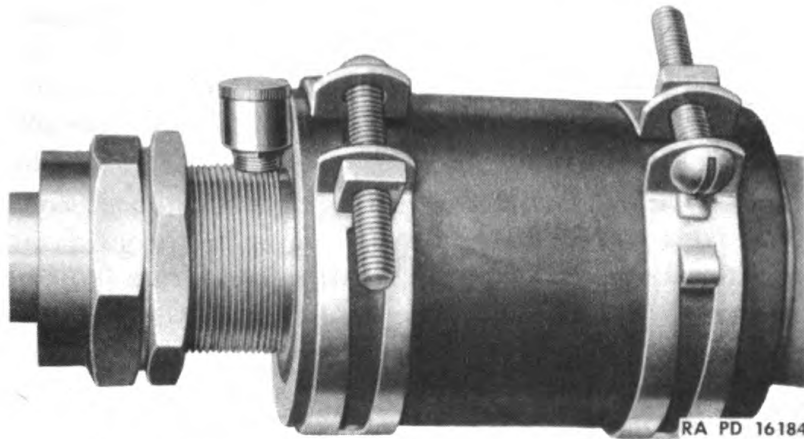

Figure 165—Water Propeller Stuffing Box
b. Adjustment Procedure (Fig. 165).
(1) Adjust stuffing box
Remove clamp bolt and clamp which attaches hose to rear end of stuffing box (see Fig. 165).